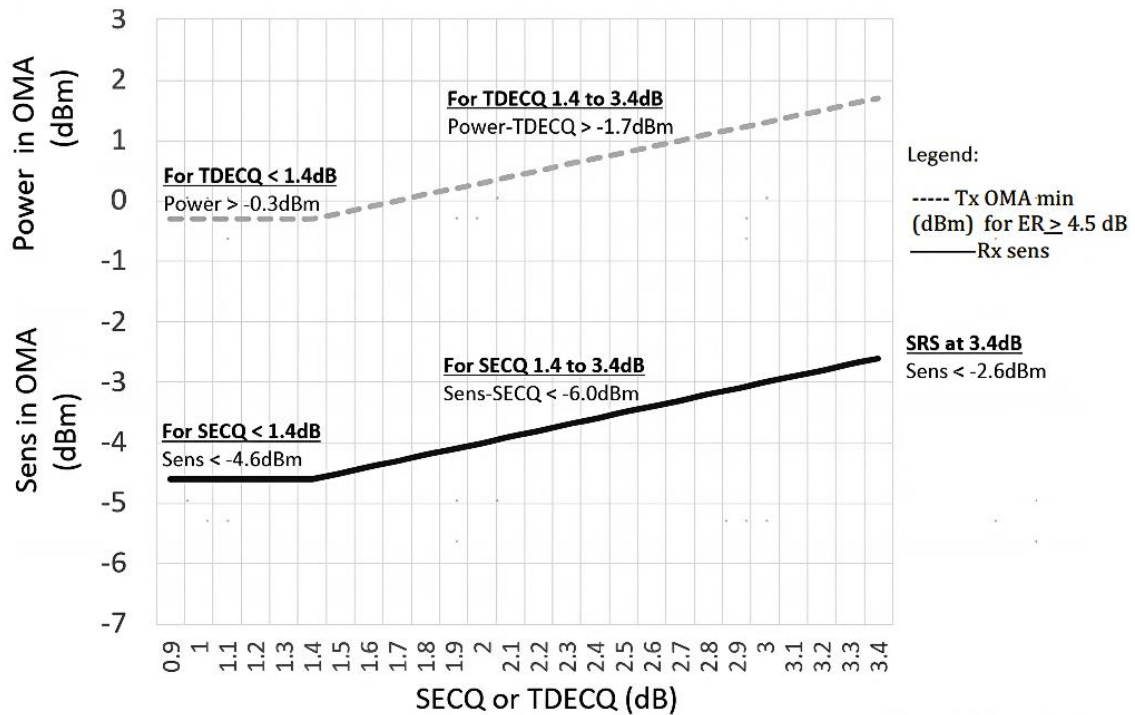

Figure 1. Illustrated of receiver sensitivity mask for 400G LR4
3. Receiver sensitivity (OMAouter), each lane (max) is informative and is defined for a transmitter with a value of SECQ up to 3.4 dB. Receiver Sensitivity should meet Equation (1), which is illustrated in Figure 1.